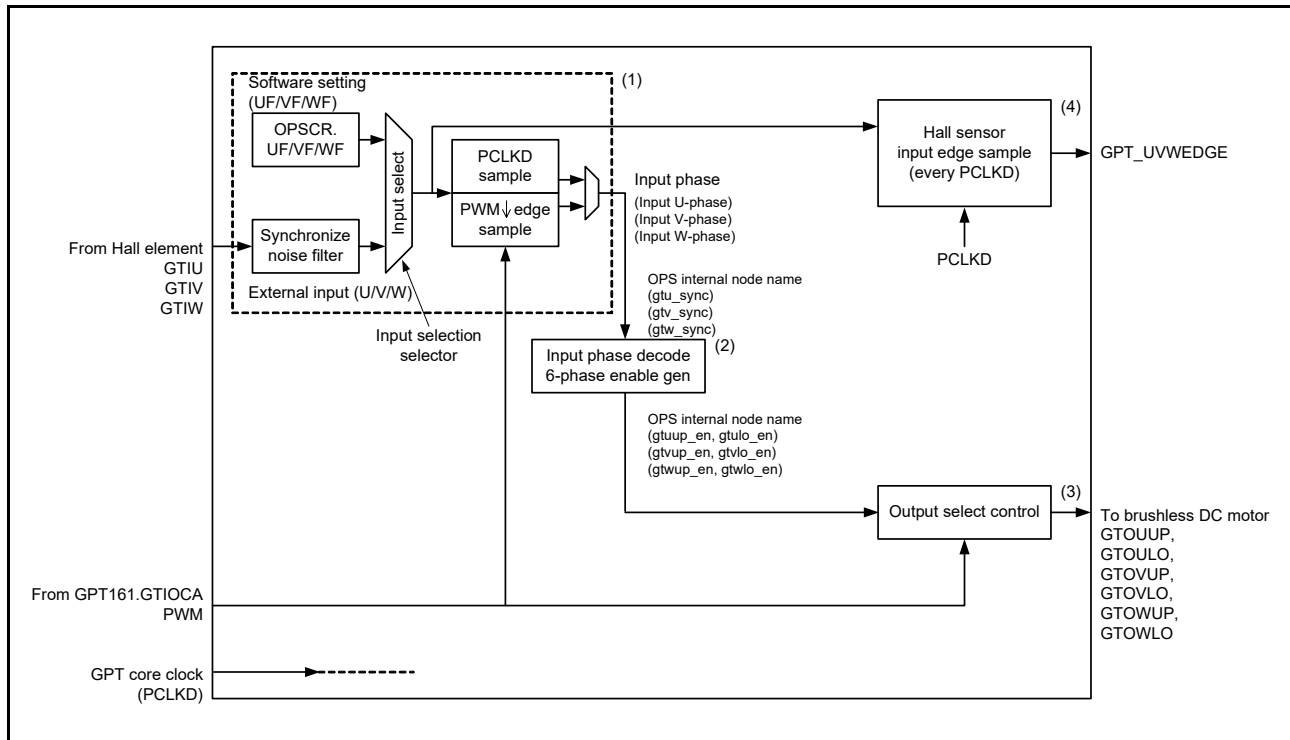

Figure 21.77 Conceptual diagram of GPT_OPS control flow
Figure 21.77 shows the conceptual diagram of GPT_OPS control flow.
In the GPT_ OPS control flow conceptual diagram shown in Figure 21.77, (1) is a selection of input phase from the software settings and external input by the OPSCR.FB bit.
In the GPT_OPS control flow conceptual diagram shown in Figure 21.77, (2) enables the 6-phase signals by decoding the input phase selected by the OPSCR.FB bit. The 6-phase enable signal is used for internal processing of GPT_OPS.
In the GPT_OPS control flow conceptual diagram in Figure 21.77, (3) represents the selection of the output waveform by setting the OPSCR register bit.
In the GPT_OPS control flow conceptual diagram shown in Figure 21.77, (4) outputs the Hall sensor input signal edge to the ELC.